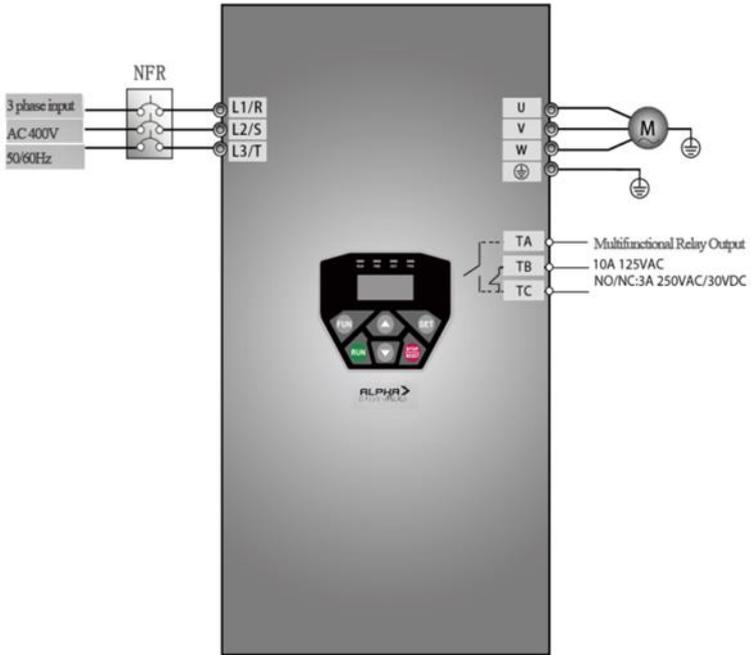

Figure 5-1 Wiring Diagram
- (1) Connect the wires in accordance with Figure 5-1. After having checked the wiring successfully, switch power on to the inverter.
- (2) Press the "Fun" key, to enter the programming menu.
- (3) Set functional parameters of the inverter:
- (1) Connect the wires in accordance with Figure 5-1. After having checked the wiring successfully, switch the power on to the inverter;
- (2) Press the “Fun” key, to enter the programming menu.